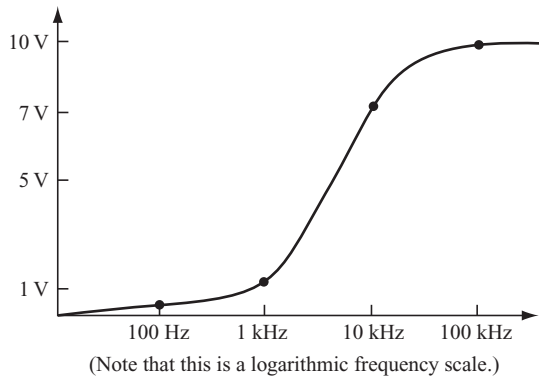
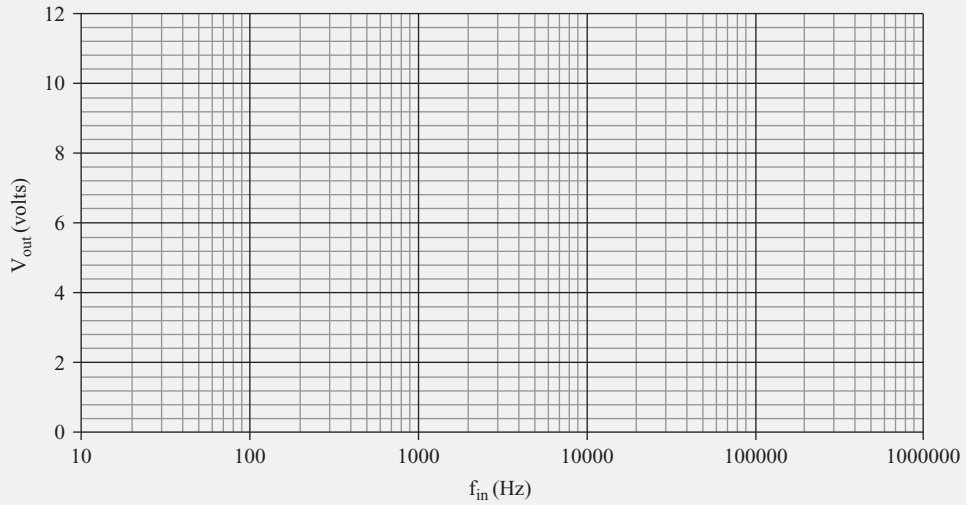

FIGURE 6.9
FIGURE 6.11
- E.** The curve is shown in Figure 6.9.
9. In the blank graph shown in Figure 6.11, plot V_{out} versus f_{in} with the voltage on the vertical axis and the frequency on the X axis. The curve should have the same shape as the curve shown in Figure 6.9, but don't worry if your curve is shifted slightly to the right or left.